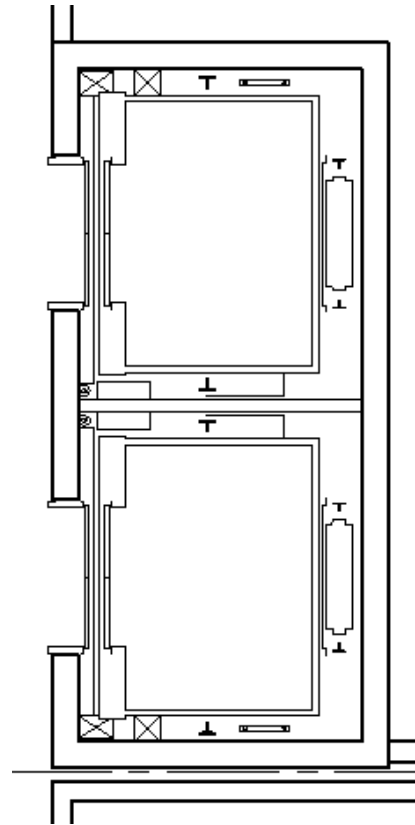

FIGURE 4-3.11
26. Use the **Mirror** command to copy a mirror image of the elevator car to the opposite side of the shaft (Figure 4-3.11).
27. **Trim** the wall lines and place the jamb lines on **A-wall** layer (not the elevator frame, just the line that closes off the wall); see Figure 4-3.11.
Your elevator should now look like Figure 4-3.11. Several details are drawn, such as the guide rail, the cab door, the floor level door and even the pit ladder.
Many architectural firms have a copy of the major elevator manufacturers' technical catalogs which provide enough information to manually draw everything in Figure 4-3.11. But it is not difficult to see how the Internet can save time when AutoCAD content is available; not all manufacturers provide AutoCAD drawings of their products.